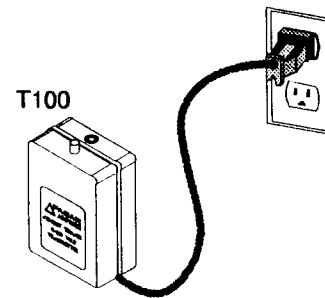
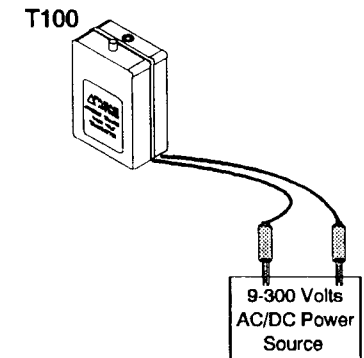

Figure 1
Figure 2
1. Plug the transmitter into any standard electrical outlet (see Figure 1). If there are no outlets available, use the pigtail connector provided in the instrument carrying case to connect the transmitter to any available voltage supply from 9-300V AC/DC (see Figure 2).